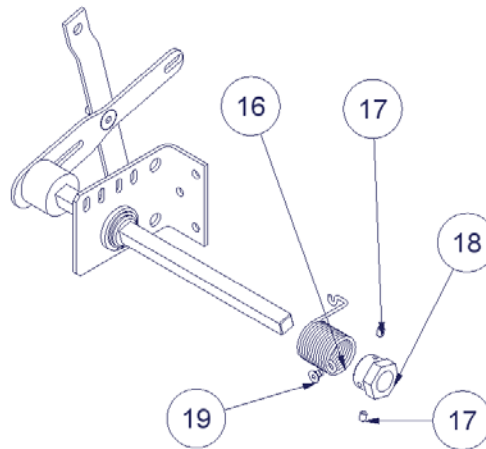

Figure .6
- 6. TENSOR AND SPRING PLACING:** The tensor (**18**) and the spring (**16**) must be assembled at the left side of the driving bar, and if it is possible it will be assembled at the side of the governor linkage (**6**), First of all the spring and the tensor must be inserted in the arm of that side. The spring is fixed to the tensor through a M6x10 DIN 7991 8.8 (**19**) and the other end of the spring must be fixed to one of the grooves placed on the mounting plate. Finally, the tensor is fixed to the driving bar arm through two M6x8 DIN913-45 H (**17**). The tensor must be prestressed in order to allow the spring to keep the handle in the lower position. – Fig. 6 –.